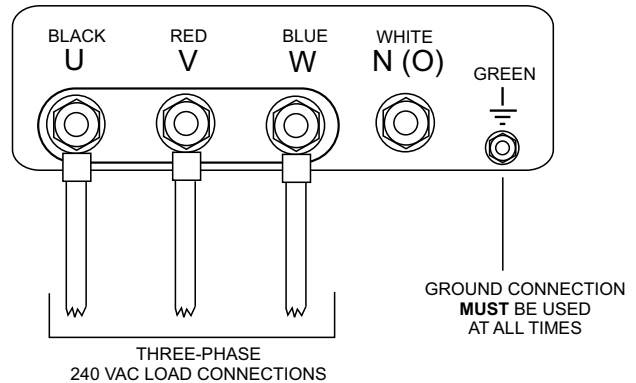

Figure 30. UVWO Terminal Lugs 3Ø-240 Connections
2. Connect the load wires to the UVWO terminals as shown in Figure 30.